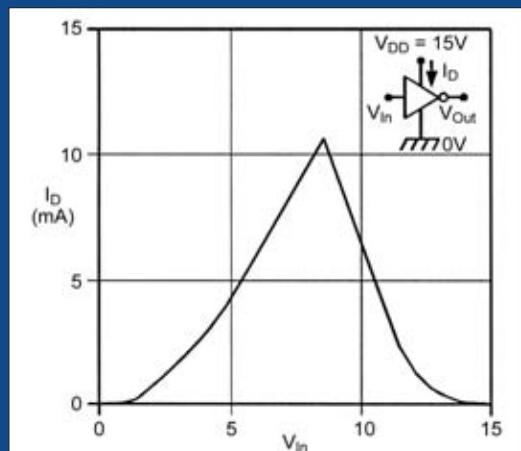
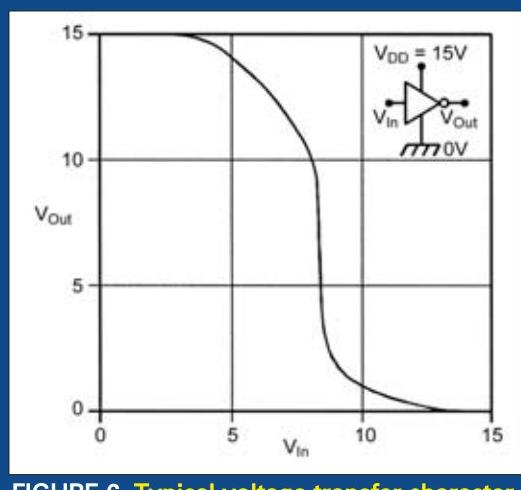

FIGURE 5. Typical drain-current transfer characteristics of the simple CMOS inverter.
FIGURE 6. Typical voltage transfer characteristics of the simple CMOS inverter.
■ FIGURE 5. PIC programming software.
■ FIGURE 6. Nixie tube driver circuit.
There are lots of schematics for PIC programmers [9] and free PIC programmer software [10] on the Internet. I like the TAIT programmer hardware. It uses the PC's parallel port and the PIPVb programming software shown in Figure 5. Just make sure the programming software is tested on the operating system you are using and works for the PIC18F2455 since the programming algorithm was changed by Microchip for this PIC [11].
Now that we have completed our boost power supply, let's use it to power an application. There are several applications we might use the boost power supply for. We could use it as a 13-volt, DC power supply to supply programming voltage for a USB PIC programmer [13]. Or, we could supply 170 volts DC at 2.5-4 mA to drive a Nixie tube [14]. Nixie tubes are the precursors to the alphanumeric LEDs of today. (See this month's project for Building a Nixie Clock.) They are no longer manufactured in the USA, but they can be found on eBay from sources in Russia and the Ukraine. Figure 6 shows additional circuitry necessary to drive a Nixie tube.
15 volt basic CMOS inverter, they produce the typical drain-current transfer graph shown in Figure 5, and the voltage transfer graph of Figure 6; these graphs can be explained as follows.
Suppose in Figures 5 and 6 that the CMOS inverter's input voltage is slowly increased upwards from zero. The inverter current is near zero until the input exceeds the n-channel MOSFET's threshold voltage, at which point its resistance starts to fall and that of the p-channel MOSFET starts to increase. Under this condition, the inverter current is dictated by the larger of the two resistances; when the input is far less than half-supply volts, the n-channel MOSFET resistance is far greater than that of the p-channel device, so the output is high (at logic-1).
Thus, the A-series type of inverter gives an output that switches fully between the supply rail values only if its input voltage swings well above and below its two internal threshold voltage values. Note (from Figure 5) that the CMOS draws a brief pulse of supply current each time it goes through a switching transition; the more often CMOS changes state in a given time, the greater are the number of current pulses that it takes from the supply and the greater is its mean current consumption. Thus, CMOS current consumption is directly proportional to switching frequency.